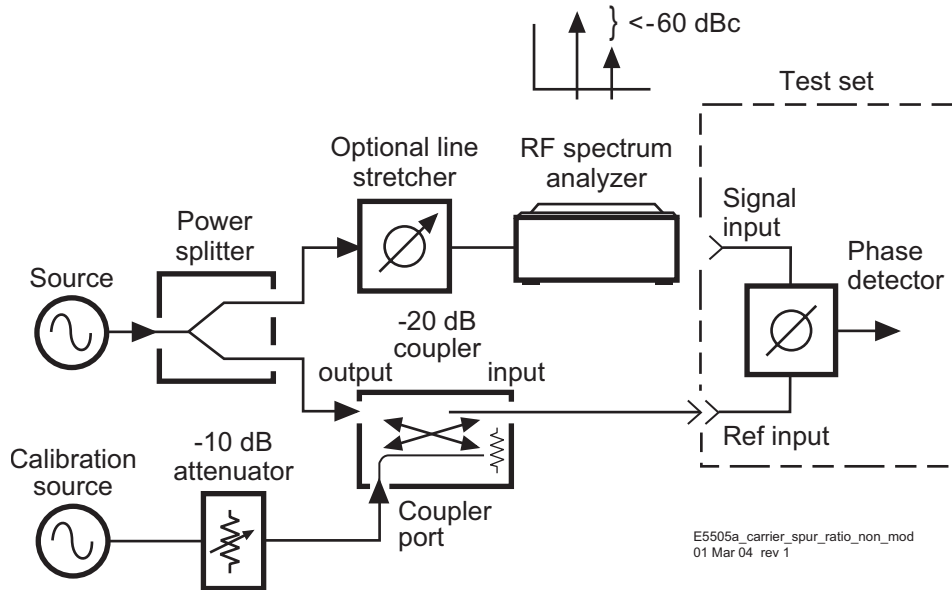

Figure 161 Carrier-to-spur ratio of non-modulated signal
- 4 Measure the carrier-to-spur ratio of the non-modulated side of the phase detector (Figure 161 on page 224). It must be at least 20 dB less than the spur ratio of the modulated port. This level is necessary to prevent cancellation of the modulation in the phase detector. Cancellation would result in a smaller phase detector constant, or a measured noise level that is worse than the actual performance. The isolation level is set by the port-to-port isolation of the power splitter and the isolation of the -20 dB coupler. This isolation can be improved at the expense of signal level by adding an attenuator between the coupler and the power splitter.